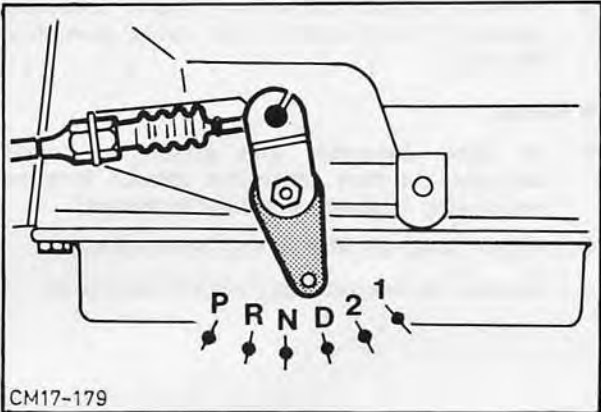

Fig. 55. Transmission selector lever in 'D' position
15. Move transmission selector lever to 'D' position, Fig. 55 (2 notches from front abutment).